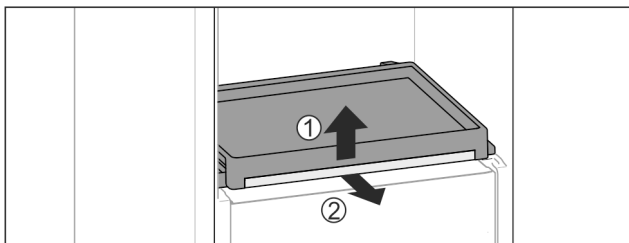

Fig. 76
- ▶ To remove the pull-out board with glass panel: Gently lift the glass panel at the front Fig. 76 (1) and pull out to the front Fig. 76 (2).